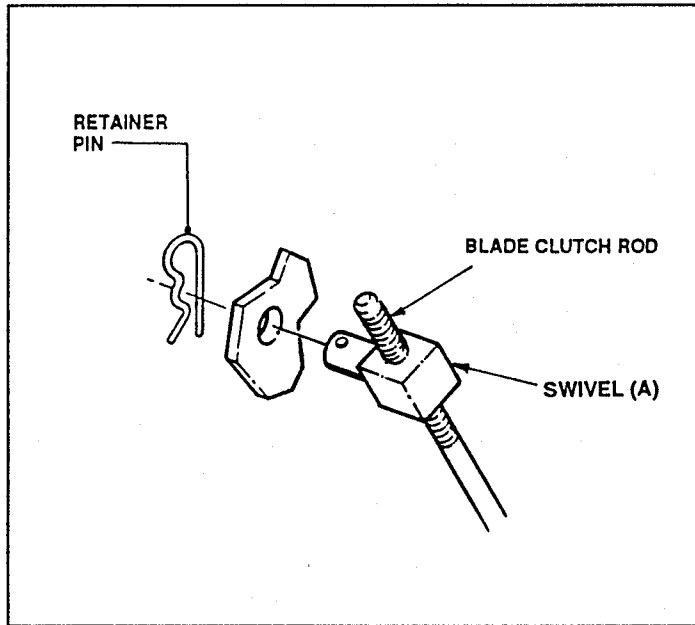

FIGURE 37
1. **STOP ENGINE!** Engage Blade Clutch Lever and check for proper Blade Clutch Lever position. The Blade Clutch Lever position can be adjusted for operator comfort by turning swivel (A) up or down on Blade Clutch Rod for desired setting. See Figure 37.